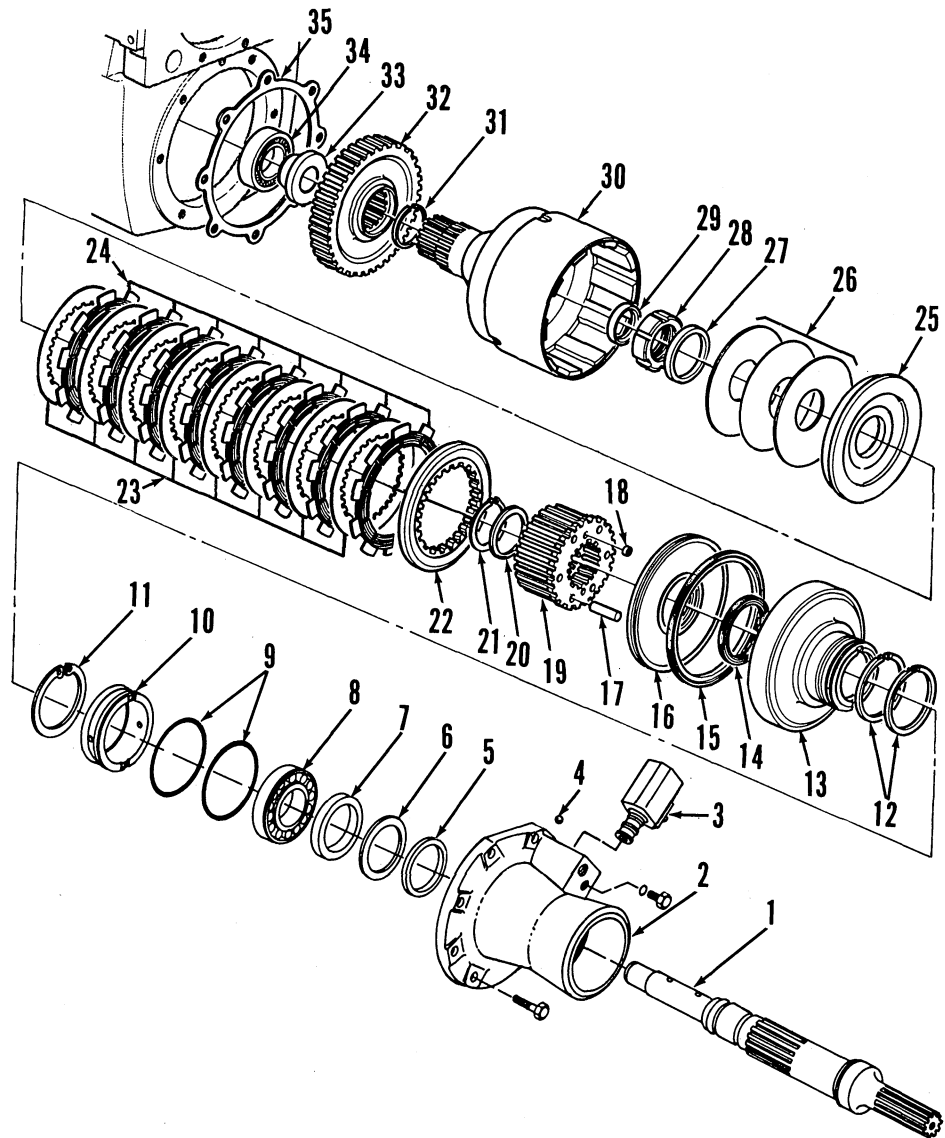
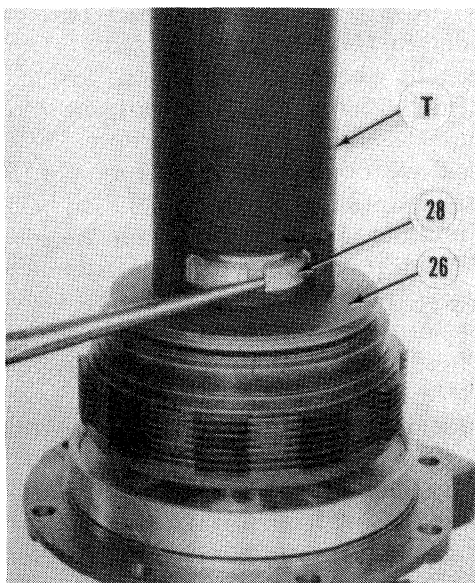
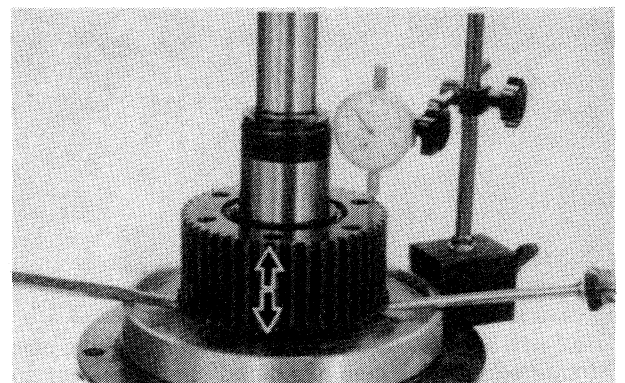
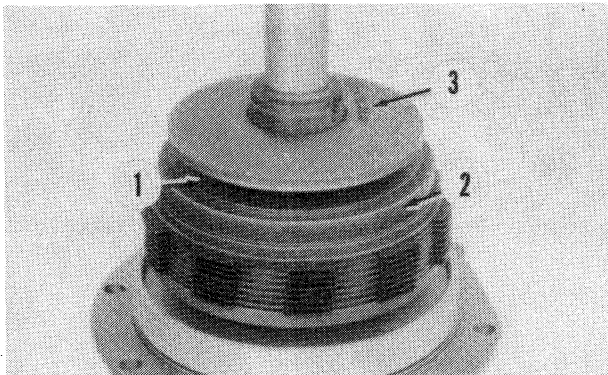

Fig. 7—Exploded view of MFWD clutch assembly used on tractors equipped with Quad-Range transmission.
Fig. 9—Use horseshoe shaped tool (T) and a press to compress Belleville springs.
Fig. 10—Use dial indicator to check end play of clutch hub.
Fig. 11—Install Belleville springs so outer diameter of first spring (1) is against pressure plate (2) and spring with measurement (3) is on top.
dowels and a floor jack (clutch weighs about 90 pounds [41 kg]), then withdraw clutch assembly. Remove clutch drum (30—Fig. 7) from clutch housing if it does not come out with clutch assembly.
To disassemble, remove washer (29) and straighten locking tabs on nut (28). Use a suitable horseshoe shaped tool (T—Fig. 9) to compress Belleville springs (26), then unscrew nut (28). Release Belleville spring tension, then remove nut (28—Fig. 7), washer (27), springs (26), pressure plate (25), clutch discs (24) and plates (23) and plate (22). Remove snap ring (21), washer (20) and hub (19) with pins (17). Pry piston housing (13) from quill (2). Tap piston housing on a block of wood to remove piston (16). Remove seal rings (12) and piston seals (14 and 15). Remove shaft retaining ring (11), then tap end of clutch shaft (1) on a block of wood to remove from housing. Remove bearing (8) and bushing (10). Remove oil seal (7), spacer (6), washer (5) and "O" rings (9).
To reassemble clutch, reverse the disassembly procedure while noting the following items. Install bushing (10) into housing (2) with beveled side first. Make certain clutch shaft (1) is completely seated in housing. Assemble inner and outer seals (14 and 15) so grooved side of seals faces offset side of piston (16). Assemble piston housing (13), piston, hub (19), washer (20) and snap ring (21), then use a dial indicator (Fig. 10) to check end play of hub (19). If necessary, adjust end play by changing thickness of washer (20—Fig. 7) to obtain 0.008 inch (0.2 mm) end play. Install pressure plate (22) with beveled edge toward piston. Install discs (24) and plates (23) alternately, starting with a disc and ending with a plate. Install clutch release pins (17) into hub (19). Install rear pressure plate (25) with offset side toward clutch pack. Assemble Belleville springs alternately so outer diameter of first spring (1—Fig. 11) is against pressure plate (2) and spring with measurement (3) is located on top as shown. Use drum (30—Fig. 7) to align clutch disc tangs, then remove drum making sure tangs remain aligned.
Belleville spring pack height must be adjusted as follows: Measure and record the thickness of nut (28) and washer (27). Then, compress springs with a horseshoe shaped tool and thread nut onto shaft until locking ring on nut is about even with notches on clutch shaft. Remove compression tool and position a straightedge (C—Fig. 12) across machined surface of nut. Measure distance between straightedge and machined surface of pressure plate. Subtract the nut and washer thickness from this dimension. The result should equal the dimension marked on the top spring (Fig. 11). Note that dimension on spring is given in millimeters and a decimal point should be put
Illustrations for Fig. 7, Fig. 9 and Fig. 10 reproduced by permission of Deere & Company. Copyright Deere & Company.
Free play between clutch shaft and clutch drum is adjusted by changing thickness of spacer washer (29—Fig. 7). If clutch shaft, drum or clutch housing is renewed, free play must be adjusted. When renewing any other parts, original washer should be installed. To adjust free play to recommended 0.020 inch (0.5 mm) dimension, proceed as follows: Install thinnest washer available on shaft. Washers are available in thicknesses from 0.270 inch (6.8 mm) to 0.380 inch (9.6 mm). Shape a piece of soft lead wire with diameter of 0.118 inch (3 mm) into a ring and position on top of spacer washer. Install clutch drum. Reinstall clutch assembly using a new gasket and tighten mounting cap screws to 80 ft.-lbs. (108 N·m). Then, remove clutch assembly and measure compressed thickness of lead wire. To calculate required